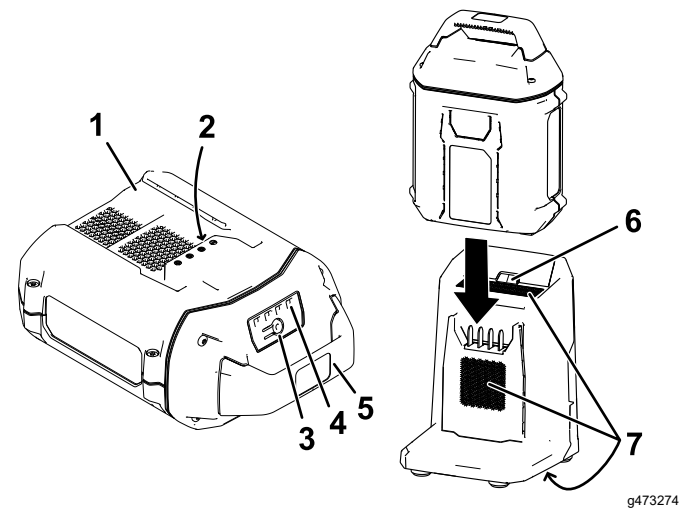

Figure 14
- 2. Line up the cavity in the battery pack (Figure 14) with the tongue on the charger.
- 3. Slide the battery pack into the charger until it is fully seated (Figure 14).